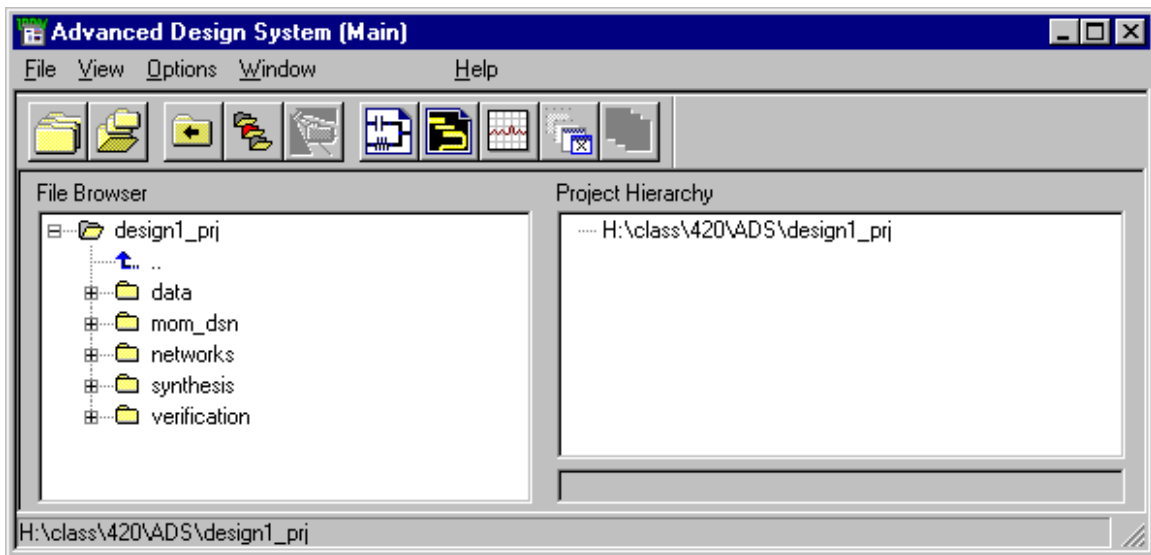

Figure 3: Main ADS window with design1\_prj opened
- When you create a new project, the schematic window will automatically open. Close all secondary windows by choosing **File->Close All**. When a new project is created, a directory named “design1\_prj” is created with several configuration files and sub-directories. In general, you should modify files within this directory through ADS only. These directories should be showing in your display as shown in Figure 3 below. Browse through the subdirectories and turn on/off the **View->Show All Files** preference. Your schematics will be stored in the networks subdirectory.